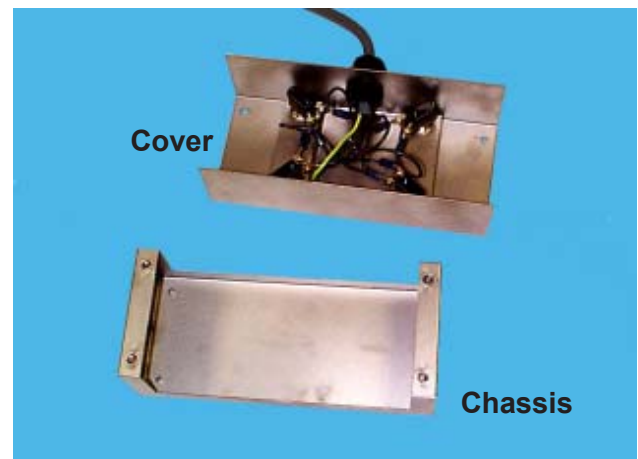

Figure 19. Foot Controller Cover and Chassis
4. Lift the foot controller cover off the chassis and turn it over to access the interior components (Figure 19).
17. Place the foot controller cover onto the chassis (Figure 19).